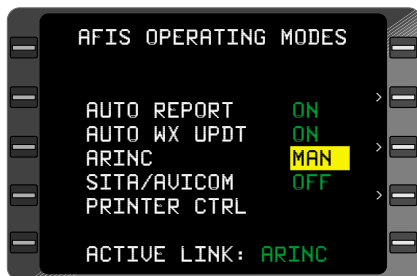

Figure 7-121
6. **ENT** Key - DEPRESS to select **MAN** or **OFF** mode. (Figure 7-121)